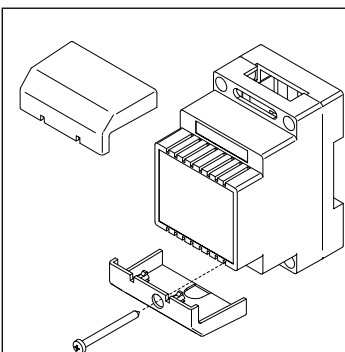
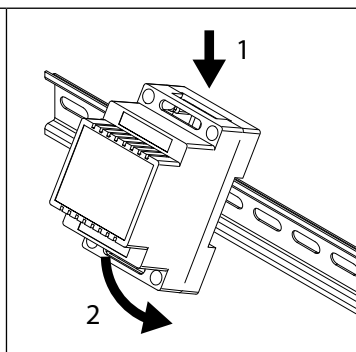
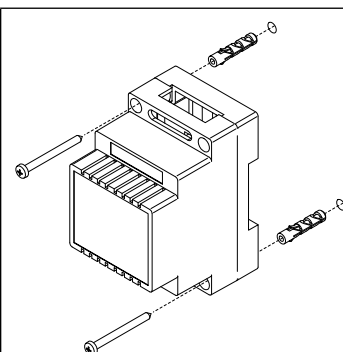
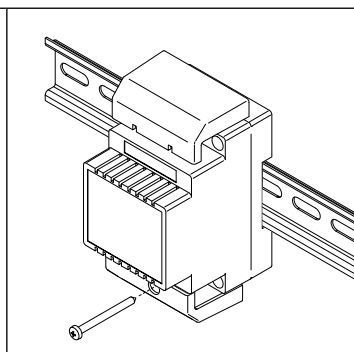

Fig. 3
Fig. 4
Fig. 5
Fig. 6
3. Put the base of the unit on the wall at approx 135cm from the finished floor (Fig. 3) to match the points for the fixing holes (B) (Fig. 4) remembering that the wires (E) (Fig. 4) must be fed through the large hole (F) (Fig. 4). If you use the flush mounting box 503, embed it into the wall vertically at approx. 140cm from the finished floor and the base.
4. Following Fig. 4, make the holes (B), insert the wall plugs (C) and fix the base with the screws (D) feeding the wires (E) through the hole (F). If you have used the box 503, fix the base to the wall through the holes (G) using the screws (D).
5. As shown in Fig. 5, connect the wires to the removable terminals following the provided installation diagram. Connect the terminal blocks to the electronics contained in the cover as shown in Fig. 6. Test system before closing. Contrast and hue trimmers can be adjusted only if the videophone is open. To activate the display and see changes use the "Camera Recall" function by pressing  button.
1. Remove the terminal side covers by unscrewing the retaining screws (**Fig. 3**);
2. Fix the power supply to a DIN rail (**Fig. 4**) or directly to the wall using two expansion type screws (**Fig. 5**);
5. When all connections are made replace and fix the terminal covers with the relevant screws (**Fig. 6**);
To give power supply to the module connect one of the inbuilt IDC male connector ① to the IDC male connector of the camera unit module through the flat cable provided. A further buttons expansion module can be connected to the free IDC male connector of the previous expansion module (**Fig. 3**).